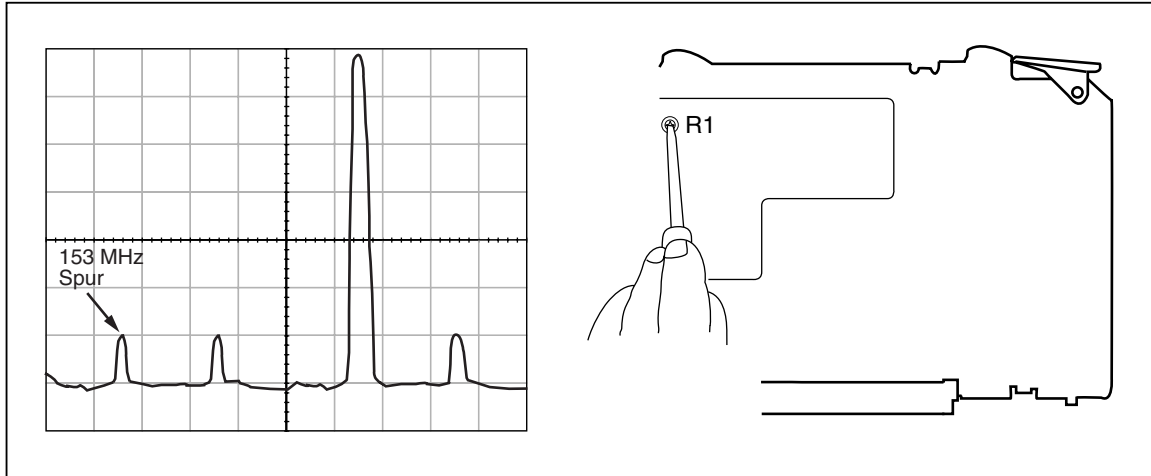

Figure 3-10. Adjusting the Leveled Sine Wave Balance
The Spectrum Analyzer will display a spur at 153 MHz. Refer to Figure 3-10 to identify the spur.
3. You need to adjust the wave until the spur is at a minimum. To do this, slowly rotate R1 (shown in Figure 3-10) counterclockwise until the spur is at a minimum. As you adjust it, the spur will move down the waveform, towards the right. As soon as the spur is minimized, stop rotating R1. If you rotate it too far, the spur will reappear.